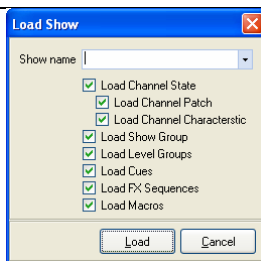

Figure 16: "Load Show" dialog
1. Open the load show dialog by clicking on the file menu and selecting “Load Show”. See Figure 16.